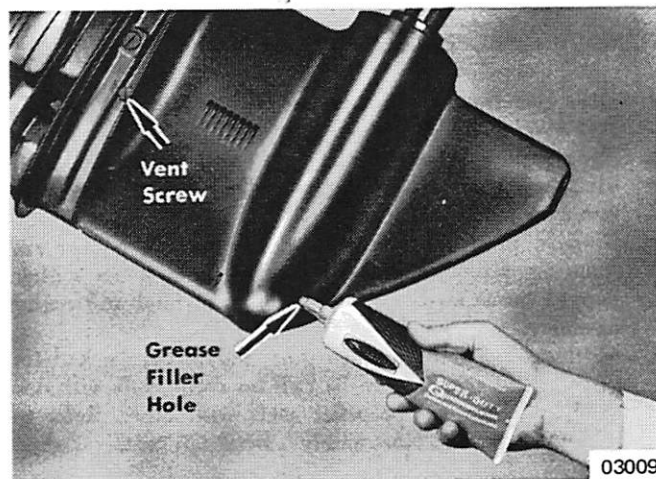

Figure 1. Gear Housing
1. Drain lubricant from gear housing by removing filler hole screw and vent screw. (Figure 1) Do not lose washers. Replace washers and screws after draining.